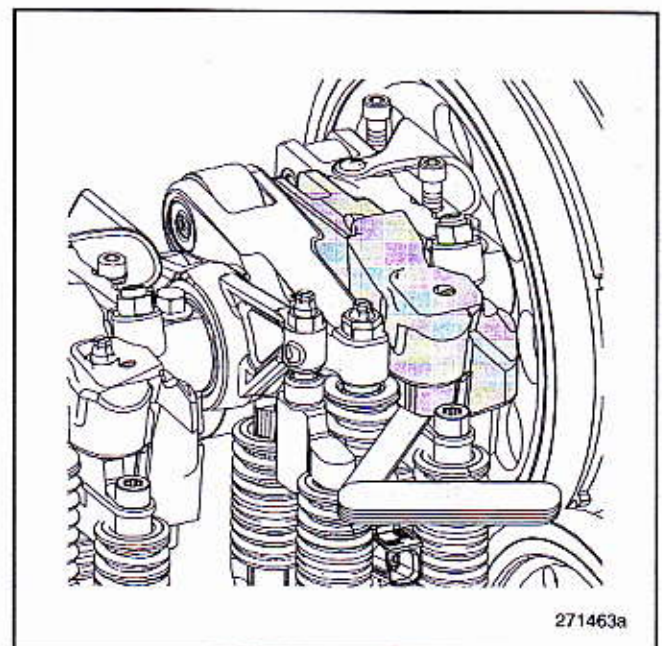

Figure 444 — Measuring Exhaust Valve Clearance
3. Measure the clearance between the exhaust rocker arm piston and the shim on top of the valve yoke (bridge) as shown in Figure 444.